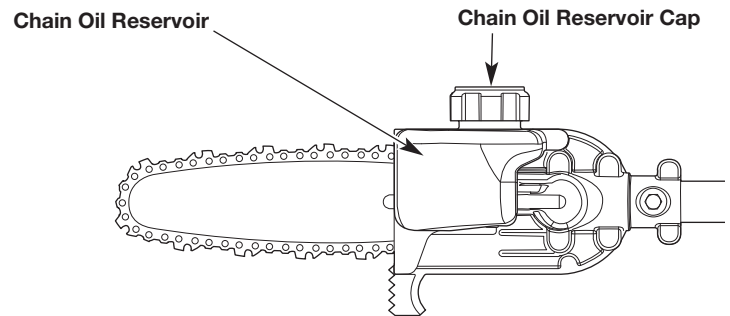

Fig. 2
2. Remove the chain oil reservoir cap (Fig. 2).
4. Pour the oil into the chain oil reservoir until it is filled (Fig. 2).